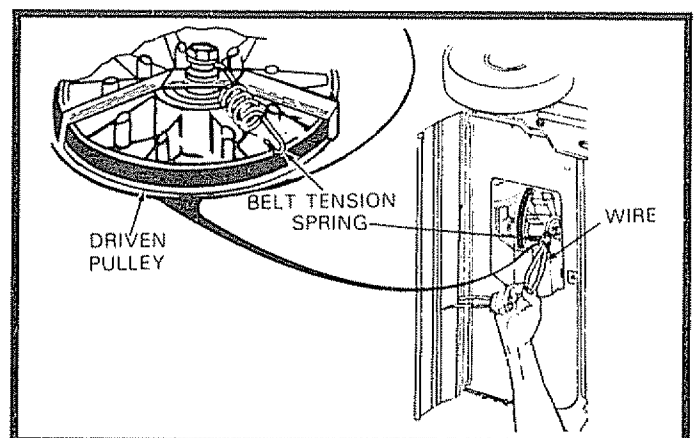

FIG. 25B
- Using a piece of wire, pull the Tension Spring through the hole in the Back Plate and reinstall the Retaining Pin (See Fig. 25B on page 18). DO NOT over stretch Spring as damage to the Spring may result.